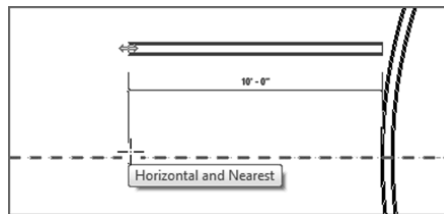

FIGURE 2.34: Drawing corridor walls using an offset can be a great time-saver.
5. To start placing the wall, pick the intersection or endpoint of the center reference plane and the radial wall, as shown in Figure 2.34.
6. Move your cursor to the left. Notice that the wall is being drawn but at an offset of 4'-0" (1200 mm) from the "line" you're drawing up the middle of the building (if it's in the opposite direction from what's shown in Figure 2.34, tap the spacebar to flip it).